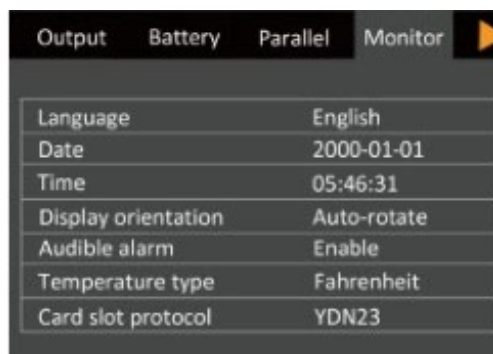

Figure 5-19 Monitor interface
2. Press the  key to move the cursor to 'Monitor', see Figure 5-19.